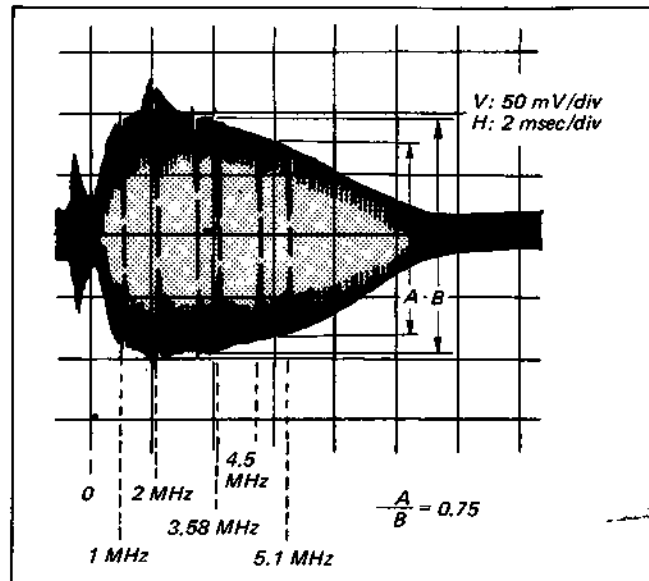

Fig. 5-27. Playback amplifier frequency response adjustment
- (1) Adjust output level to maximum with the tracking knob.
- (2) Set the trigger slope to - (+).
- (3) Adjust so that the 5.1 MHz level about 75% of 3.58 MHz level with RP-24 board RV005 (RV001). (See Fig. 5-27)
- (4) Adjust RV002 so that BCH level and ACH level are equal.
- (2) Set trigger slope to - (+).
- (3) Connect SS-53 board IC517 pins ⑨ and ⑩.
- (4) Connect RP-24 board IC004 pins ⑫ and ⑬.
- (5) Adjust so that 5.1 MHz level is 75% of 3.5 MHz level. (See Fig. 5-27)
- (6) Adjust RV004 (RV007) so that A'-ch and B'-ch levels are the same as A-ch.
- (7) Remove the connection between SS-53 board IC517 pins ⑨ and ⑩.
- (8) Remove the connection between RP-24 board IC004 pins ⑫ and ⑬.